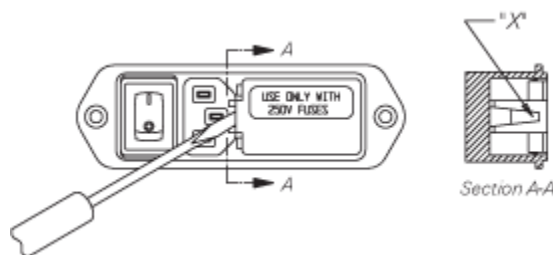

Figure 2-2: Pry Open the Cover
- Use a small flat-blade screwdriver or similar tool to pry open the cover below the power cord socket (see Figure 2-2). Pry at "X".
3. Use a small flat-blade screwdriver or similar tool to pry open the cover below the power cord socket (see Figure 2-2). Pry at "X".